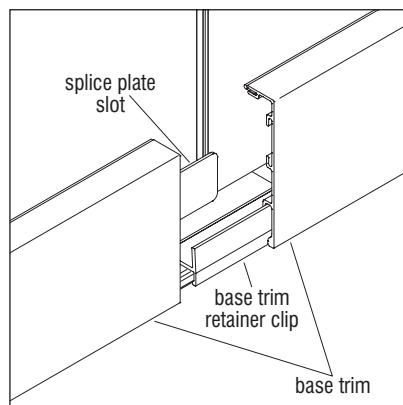

Figure 1 - In-Line Floor Trim
1. Measure and cut ceiling and floor trim to proper length. The most desirable splice is at a panel seam. In-Line splices are held together with the Lightline trim splice plates (50.1496) (Figures 1 & 2).
2. To splice two trim sections together (either floor or ceiling), first press a splice plate (50.1496) into the splice plate slot of one trim piece (Figure 1 & 2). Then press the trim together tightly, so the splice plate of the first trim inserts into the splice plate slot of the adjacent trim (Detail A).